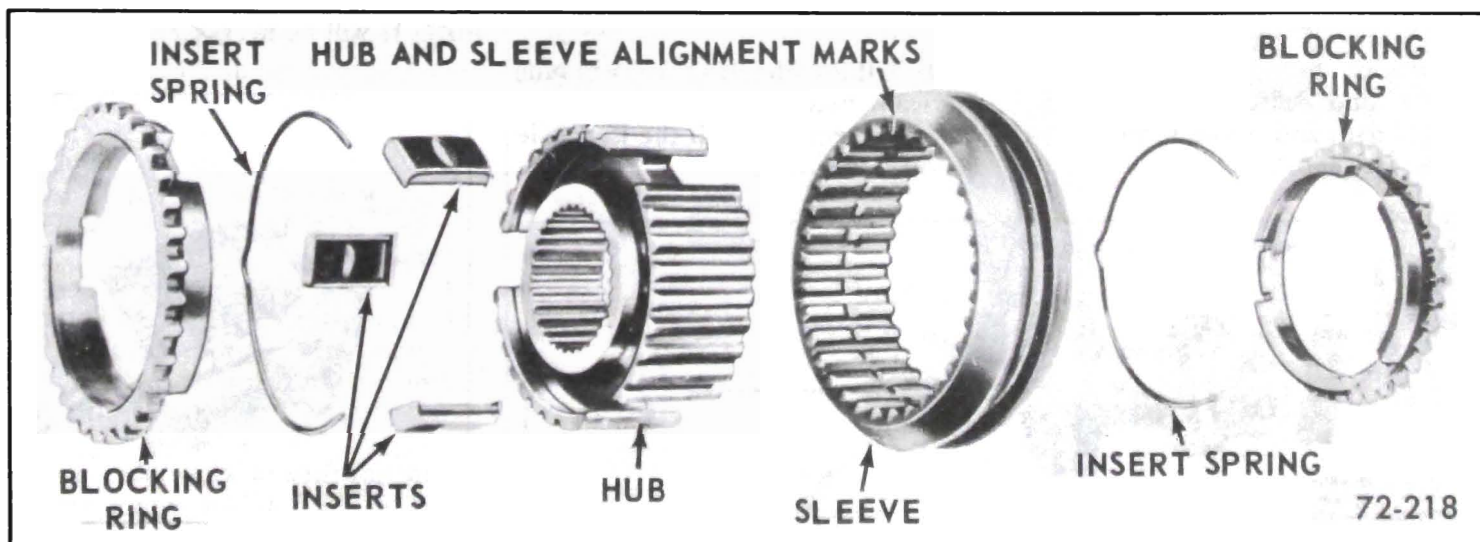

Figure 72-218 - Exploded View of Second-Third Synchronizer
NOTE: Make certain that all three insert slots are fully covered. See Figure 72-218.
b. With alignment marks on hub and sleeve aligned, start hub onto sleeve. See Figure 72-218.
c. Place three inserts, in the slots, on top of retaining spring. See Figure 72-218. Push assembly together.
d. Install remaining insert spring so that spring ends cover same slots as does other spring. See Figure 72-218.